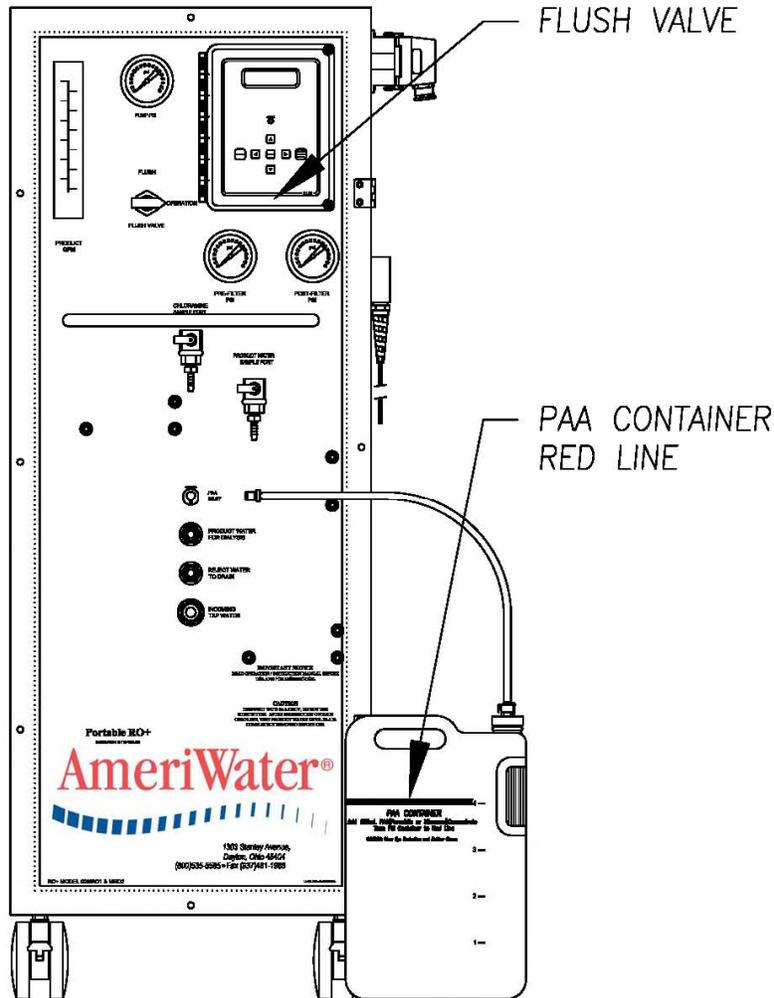

FIGURE 5.1
10. Connect the PAA tubing male fitting into the PAA Container's quick disconnect fitting that is mounted in the cap assembly (Figure 5.1).
11. Turn the FLUSH VALVE to the FLUSH position (Figure 5.1).